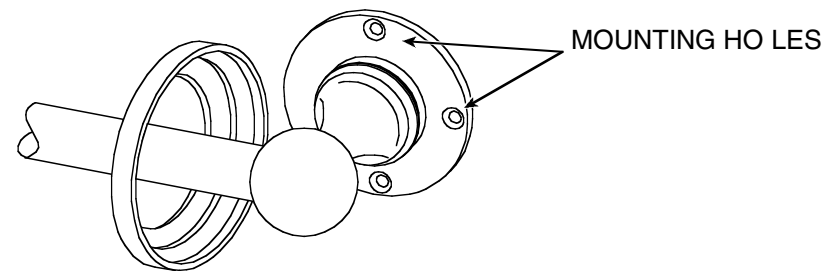

Figure 1
4. With a pencil, mark the centers of the mounting hole positions on one end (see **Figure 1**). These are the points where you will later drill pilot holes for putting in the screws. If installing over ceramic tiles, place masking tape on the mounting areas before marking the hole locations to prevent the carbide tip drill bit from sliding across the tile.